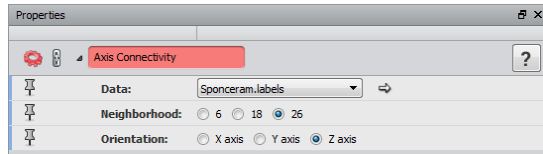

Figure 17.6: Axis Connectivity Module Configuration
3. Apply an *Axis Connectivity* module on the `Sponceram.labels`. Select a *Neighborhood* of 26 voxels in the *neighborhood* port. This allows keeping only the connected porosity of the sample (see Figure 17.6).